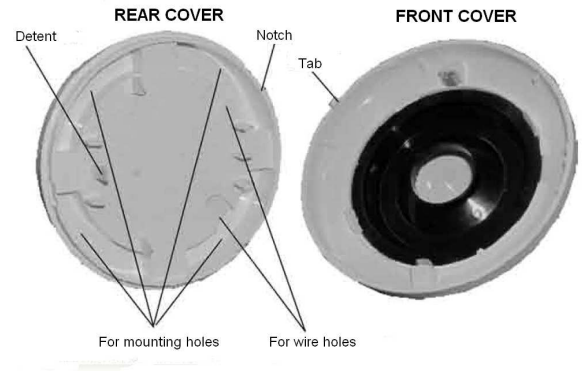

Figure 2: Rear Cover and Front Cover of the Detector
1. Release the front detector cover by turning it counterclockwise until stops in the notch at the outer end of the rear cover, and then remove the cover (see Figure 2)
3. Drill out the required holes in the rear cover (see Figure 2), the holes being used to mount and to wire the detector